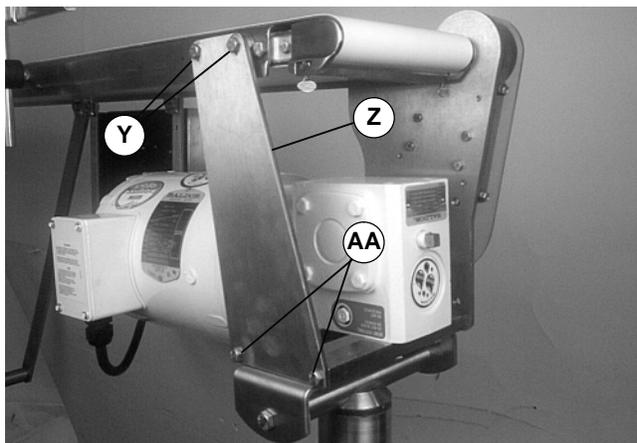

Figure 22
NOTE: For conveyor with a Heavy Load Bottom or Top Mount Package, bracket (Z of Figure 22) must be removed.
6. For a conveyor with a Heavy Load Bottom or Top Mounting package, re-install bracket (Z of Figure 22).
NOTE: With a Heavy Load Mount Package, two (2) screws (Y of Figure 22) were removed in step 1.